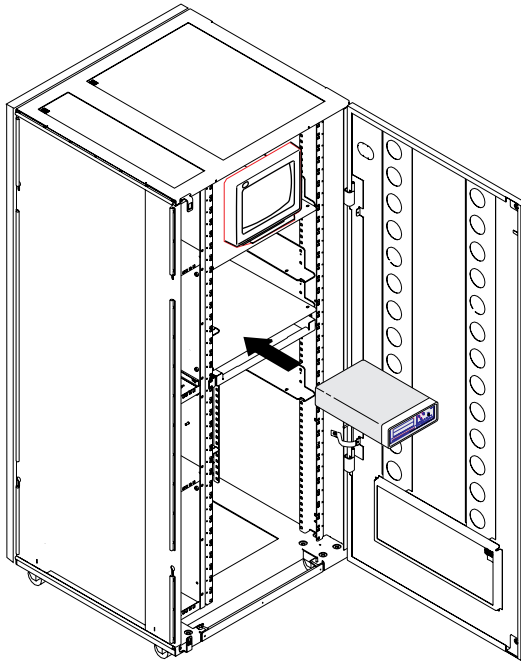

Figure 1-105. Installing the 7855 in the Controller Expansion
26. ____ Slide the 7855 in the controller expansion as shown in Figure 1-105.